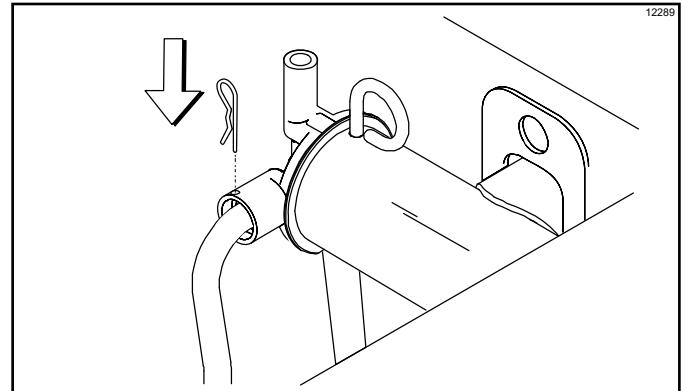

Figure 6-40
5. Install the pump end of mix feed tube and secure with cotter pin. (See Figure 6-40.)